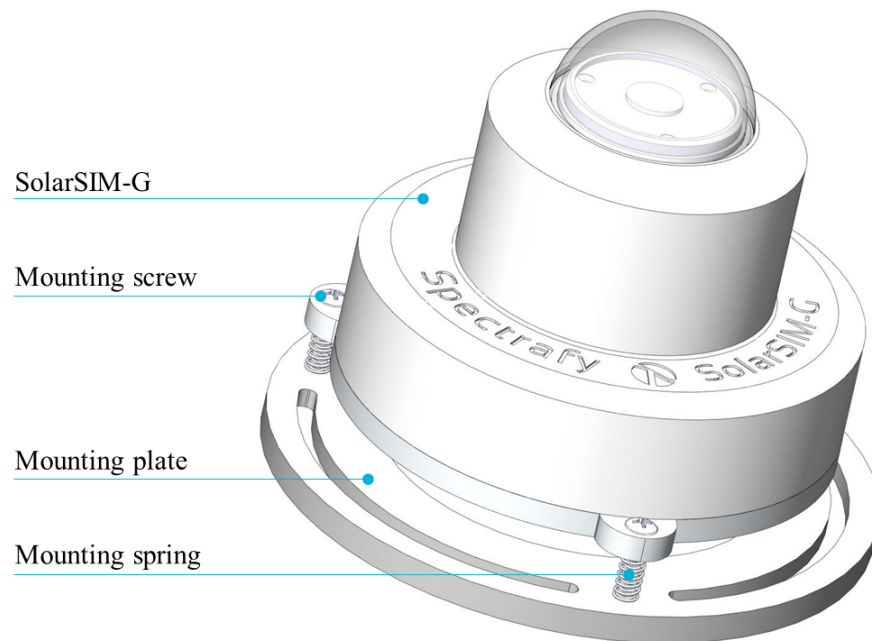
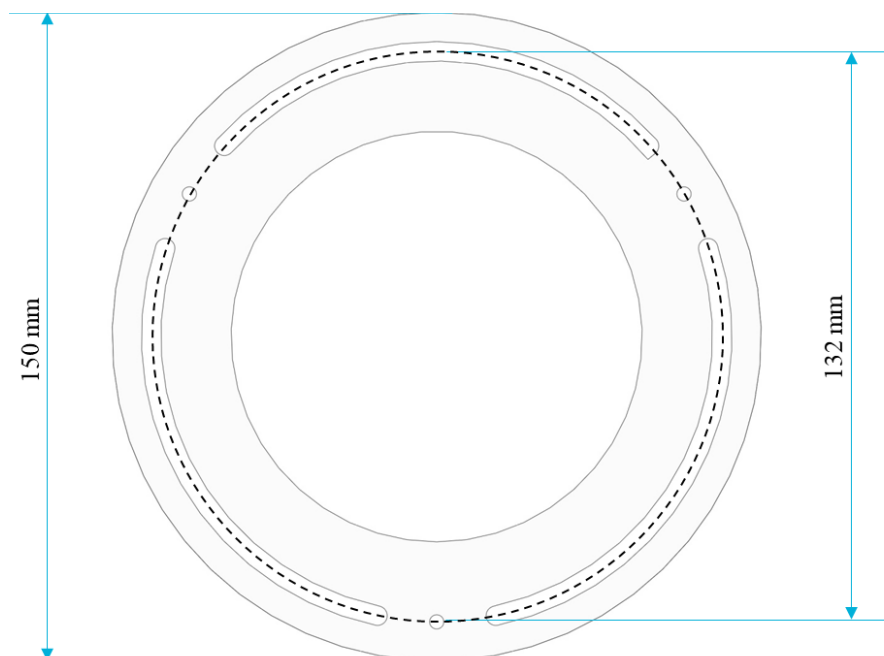

Figure 2: Assembled SolarSIM-G on a mounting plate.
Figure 3: Dimensional drawing of a mounting plate.
The SolarSIM-G installation requires fastening it to the mounting plate via three M4 screws and springs, as demonstrated in Figure 2. The mounting plate is 7.3 mm thick and has three slots with a 132 mm diameter that are 4.5 mm wide for external fastening, as shown in Figure 3. The screws for external mounting are not provided. The procedure for mechanical installation is described as follows:
1. Place the SolarSIM-G on the mounting plate as per Figure 3.